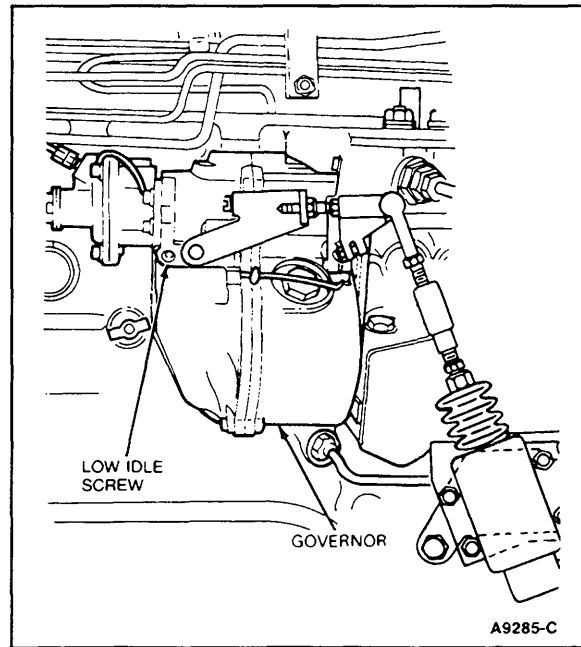

Figure 11 Adjusting Screw
6. Check idle speed using Rotunda Photoelectric Tachometer 055-00108 or equivalent. Low idle speed is specified on the Vehicle Emission Control Information (VECI) decal. Turn adjusting screw (Figure 11) counterclockwise to increase speed, clockwise to decrease speed.